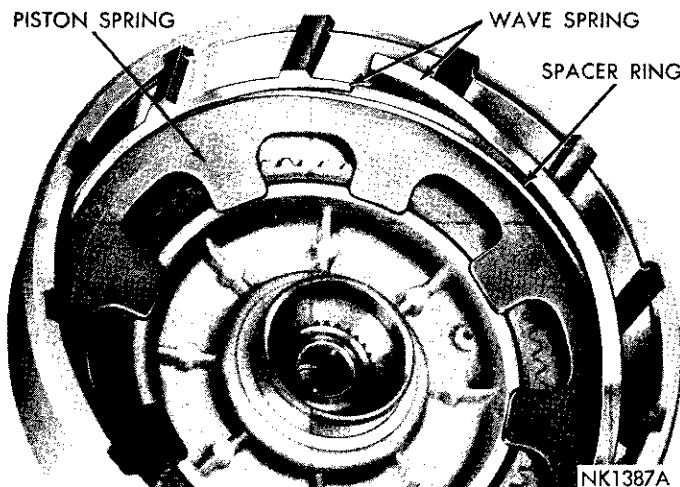

Fig. 62—Installing Rear Clutch Spring, Spacer Ring and Wave Spring
(3) Place piston assembly in retainer and, with a twisting motion, seat piston in bottom of the retainer.
(4) Position clutch retainer over piston retainer splines and support the assembly so clutch retainer remains in place.
(5) Place clutch piston spring and spacer ring on top of piston in clutch retainer, make sure spring and spacer ring are positioned in retainer recess. Start one end of wave spring in the retainer groove (Fig. 62), then progressively push or tap spring into place making sure it is fully seated in the groove.
(6) Install inner pressure plate in clutch retainer with raised portion of plate resting on the spring.
(7) Lubricate all clutch plates, install one lined plate followed by a steel plate until all plates are installed. Install outer pressure plate and selective snap ring.
(8) Measure rear clutch plate clearance by having an assistant press downward firmly on the outer pressure plate, then insert a feeler gauge between